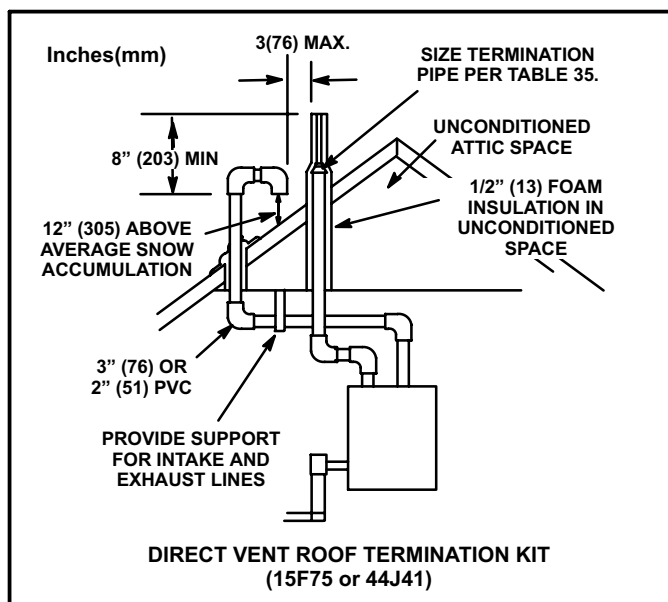

FIGURE 28
Intake and exhaust pipes may be routed either horizontally through an outside wall or vertically through the roof. In attic or closet installations, vertical termination through the roof is preferred. Figures 28 through 36 show typical terminations.
4. On roof terminations, the intake piping should terminate straight down using two 90° elbows (See figure 28).